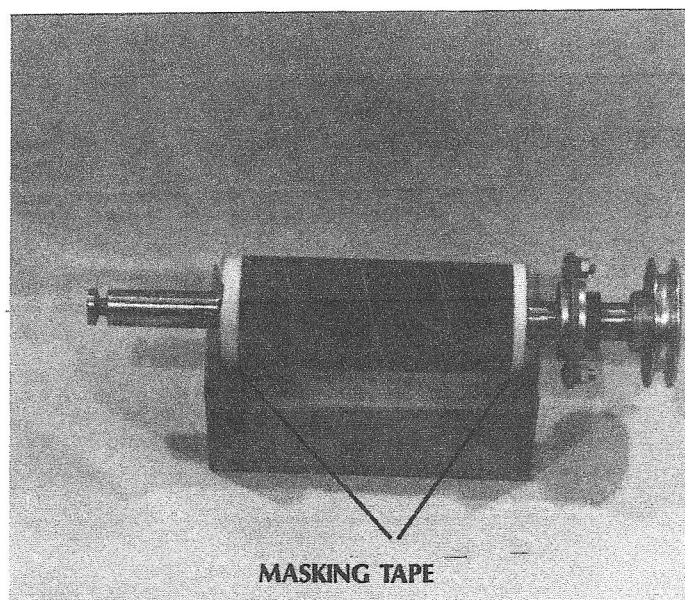

Fig. 20
5. Trim the other end of the material to the edge of the head and tape with two turns of masking tape. (fig. 20)